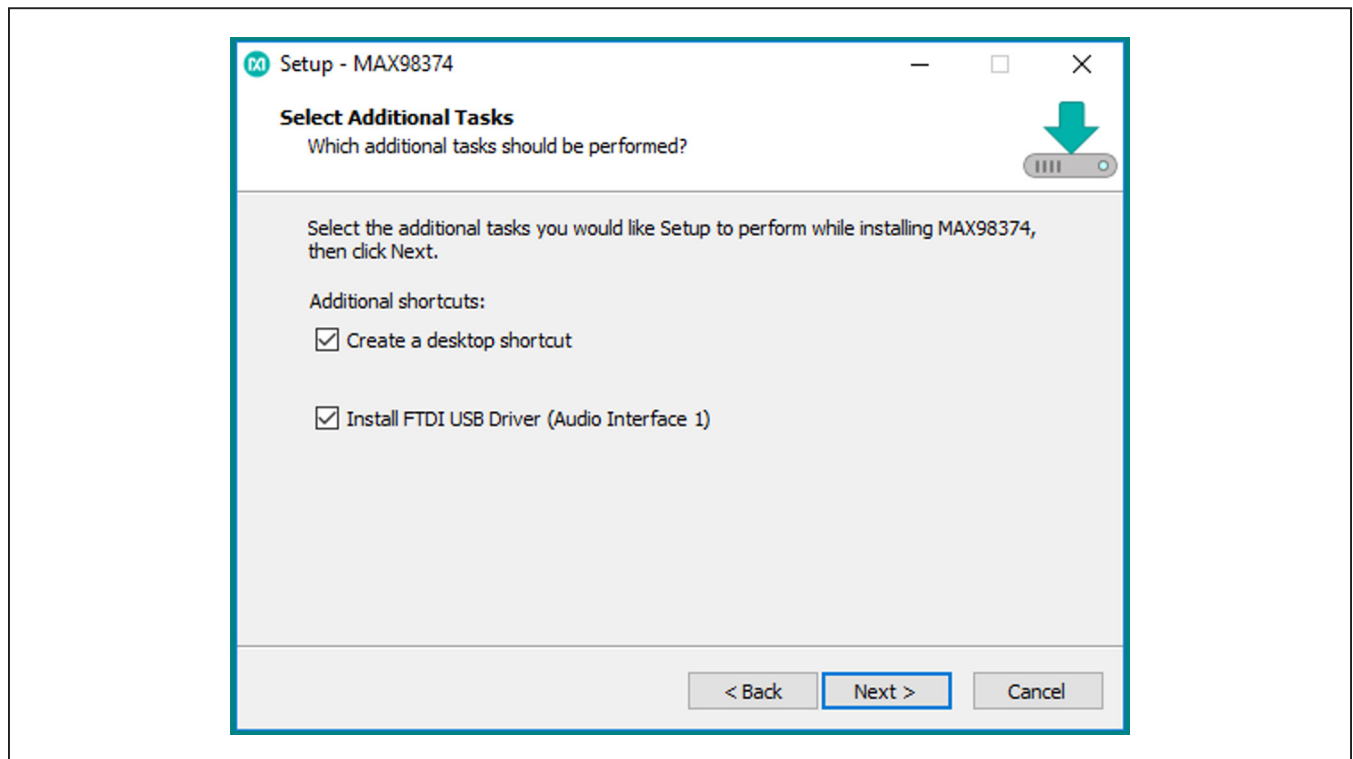

Figure 1. Software Installer, FTDI USB Driver Selection
- 2) Install the software and USB driver on your computer by running the program installer MAX98374EVSwSetup.exe. Program files are copied, and icons are created in the Windows Start | Programs | Maxim Integrated| MAX98374 Evaluation Software folder. Follow the installer prompts to completion. For first time installations, at the **Select Additional Tasks** page, be sure the **Install FTDI USB Driver (Audio Interface 1)** check box is selected as shown in Figure 1. The FTDI drivers are needed for I²C communication with the device through the Audio Interface 1 application board. Windows might display a message indicating that this software is from an unknown publisher. This is not an error condition and it is safe to proceed with the installation.